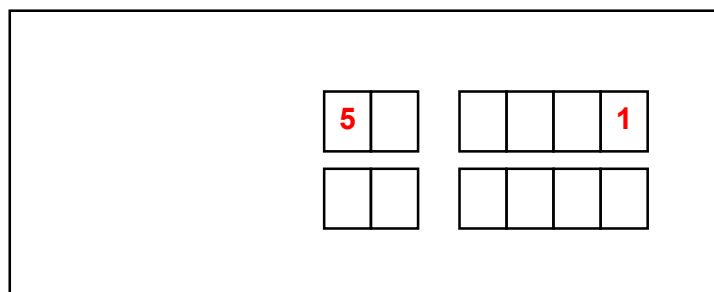

Figure 8.
- Press [SA] – panel displays as per Figure 8.